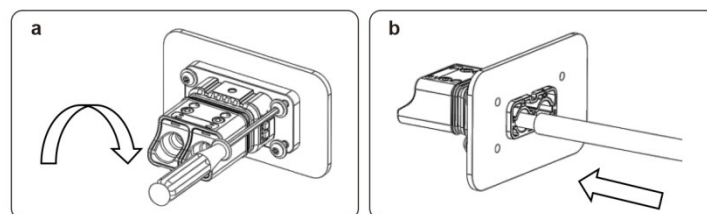

Fig. 4-23 Locking Power Terminal
Step3: Connect the cables tied inside the cabinet to the battery pack as shown in Fig.4-23. The cables need to be installed in place, and a “click” is heard when they are in place.